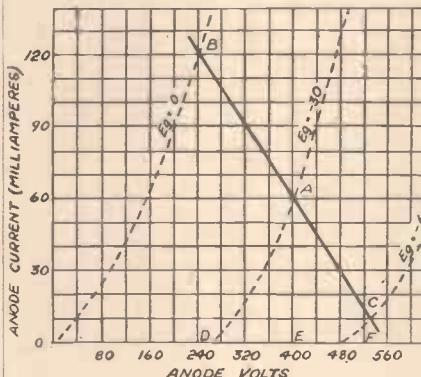
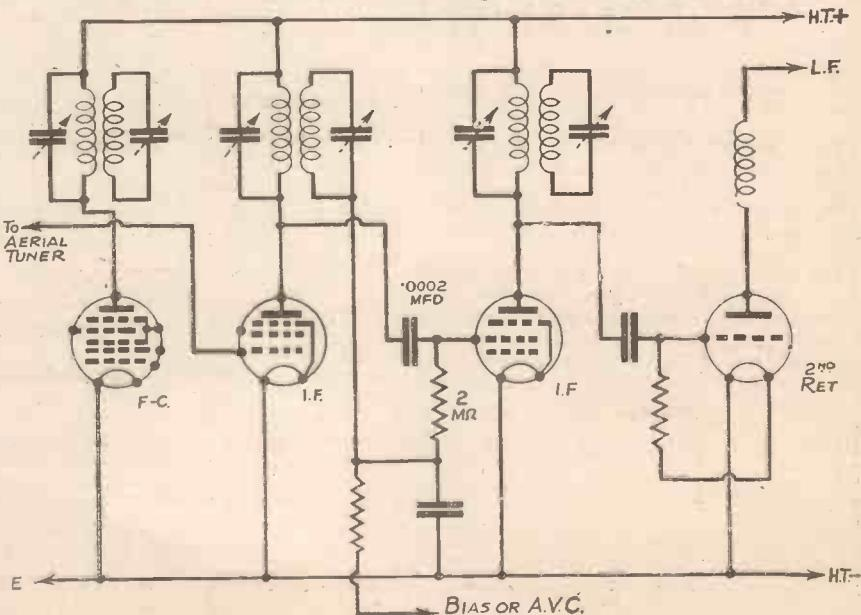

Fig. 1.—The complete curve referred to in the text, with all unnecessary curves omitted to make the diagram clear.
Fig. 3.—A skeleton circuit showing the connections used in eliminating the frequency-changer when there are two I.F. valves.
IN Fig. 3 of last week's issue the line A B C was shown crossing the dissipation line, but in actual practice it is necessary to keep the load line below this value and the two should not cross. However, to plot the load line the following procedure is adopted. The point A in the figure in question, which is repeated this week in a simplified form at Fig. 1, is the point of normal working, namely the point denoting maximum H.T. volts, maximum G.B., and the normal anode current at these two figures. This position, of course, represents the actual condition of the valve when no signal is being received. Now to denote the maximum and minimum values we have to take into account the fact that in the anode circuit there is an inductive load, and the impedance of this load varies with the frequency. If the load were of infinite impedance the line A B C in the diagram would be a horizontal line, for the voltage would be reduced to zero with a sufficiently high grid input, and thus we must calculate our output with the correct anode load. Now the makers state this figure, or we may take it as twice the normal anode impedance for a triode valve and we can then calculate the position of minimum voltage by multiplying the load by the normal anode current and dividing by 1,000. Now where this voltage line is crossed by the line representing zero grid bias a dot must be made, and through this point and the point already made a line is drawn, continuing to the line representing double the normal bias. These three points are represented in the diagram respectively as A (normal working point), B (minimum voltage) and C (maximum voltage).
We can now drop a line from each of these points and they will represent what might be termed instantaneous values, and it will be seen from Fig. 1 that point B corresponds to an anode voltage of 240 volts (D), whilst point C corresponds to a voltage of 520 volts (F). Now the anode current at point B is 120 millamps., and this represents a maximum value at this point of 120 mA. At point C the anode current is only 10 mA and this represents a change of only 10 mA. We may state, therefore, that the R.M.S. value of the anode current swing is $\frac{120-10}{2\sqrt{2}}$.
When there are two I.F. valves the anode circuits of both must be modified, whilst a .0002-mfd. grid condenser and a 2-megohm leak should be included in the grid circuit of the first, as shown in Fig. 3. The objects of these components are to prevent the grid from being biased positively by the H.T. voltage, and to ensure that the bias voltage remains as before.
Fig. 3.—Circuit for a straight three-valve short-wave receiver with two stages of L.F. transformer coupling. $C_1 = .0001 \text{ mfd.}$, $C_2 = 2 \text{ mfd.}$, $C_3 = 1 \text{ mfd.}$, $C_4 = .00016 \text{ mfd.}$, $C_5 = .00016 \text{ mfd.}$, $C_6 = \text{Band Spread (capacity will depend upon coils used)}$, $R_2 = 20,000 \text{ ohms}$, $GL = 2\text{-}3\text{-}5 \text{ megohms}$, $R_3 = 400 \text{ ohms potentiometer}$, $SW = \text{on-off switch}$.
Fig. 3 shows the theoretical circuit diagram of what may be called a de-luxe arrangement of the popular O-v-2 receiver. Band-spread tuning C6, potentiometer control R3, aperiodic aerial coupling, L.F. choke output, efficient decoupling arrangements, and two transformer-coupled low-frequency stages, are the salient features.